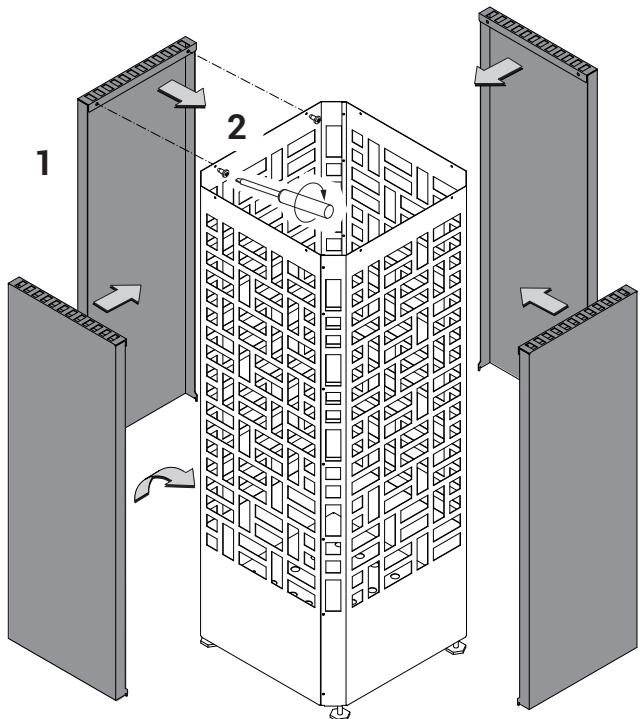

Fig. 7
- First insert the bottom end tongues of the panel into the openings in the heater shell, then put the upper part over the top edge of the outer shell (Fig .7).
- Secure each side panel with 2 supplied screws (Fig. 7).